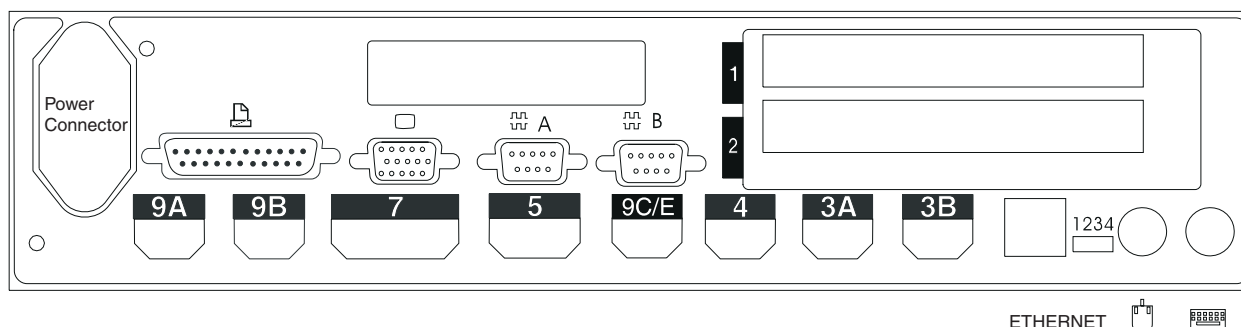

Figure 108. Rear of 4694-2x4 or 4694-245 Controller/Terminal
8. Mark an X on Figure 108 to indicate the sockets in which POS devices are connected.